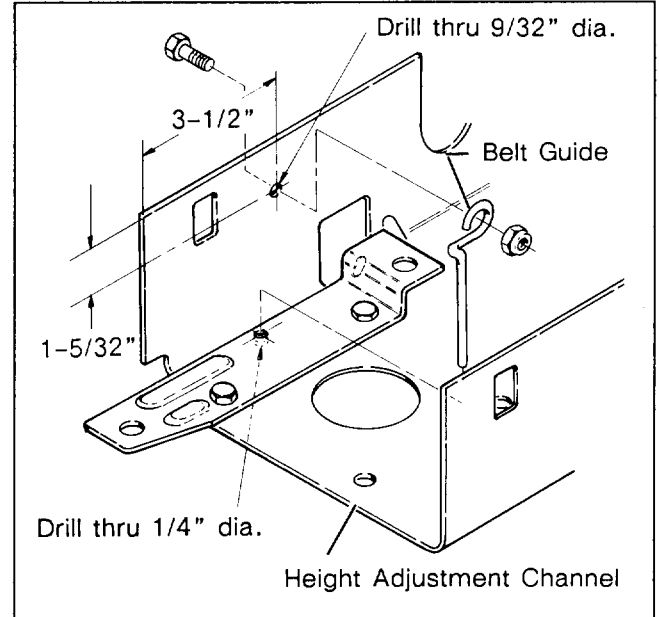

Figure 2
9. Reposition idler mounting bracket onto height adjustment channel, align mounting holes and insert (2) spindle mounting capscrews to correctly locate idler mounting bracket on height adjustment channel (Fig. 2).
10. Using idler mounting bracket as a template, mark the location, of the newly drilled hole, onto height adjustment channel. Remove idler mounting bracket and drill a 1/4 inch dia. hole in height adjustment channel (Fig. 2).
11. Using the dimensions shown in fig. 2, locate and drill a 9/32 inch dia. hole in side of height adjustment channel.
12. Mount new spindle assembly, height adjustment channel and idler mounting bracket to mower housing with (1) 5/16-18 x 1" lg. capscrew included in kit and (3) mounting screws and (4) locknuts previously removed.
13. Insert end of belt guide into holes drilled in idler mounting bracket and height adjustment channel while securing looped end to side of adjustment channel (newly drilled hole) with a 1/4-20 x 7/8" lg. capscrew, washer and locknut as shown in fig. 2.